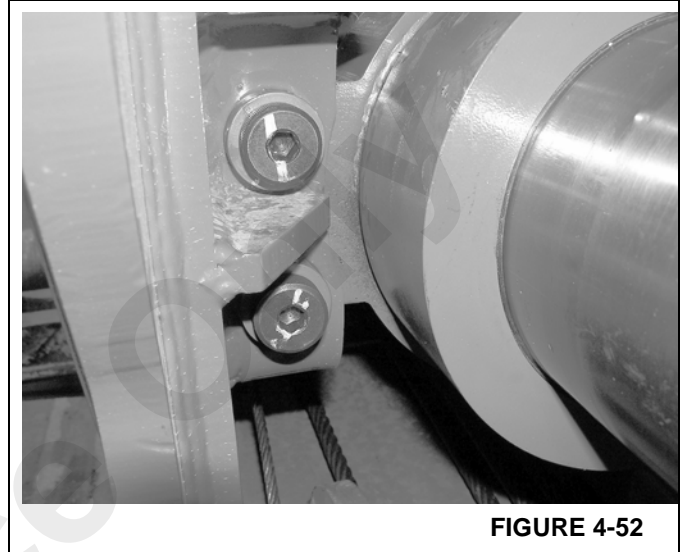

FIGURE 4-52
13. Align cylinder mounting holes with mounting bracket holes in rear of Outer Mid section and secure with two bolts and bushings on each side. (Figure 4-52)